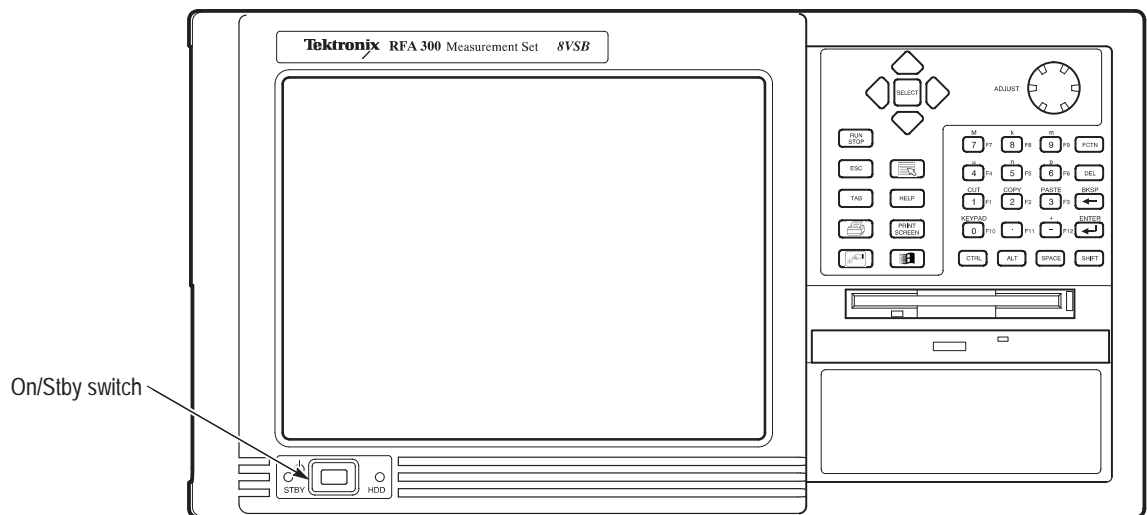

Figure 4-2: On/Stby switch
4. Push the measurement set front panel On/Stby button (see Figure 4-2 for the location).